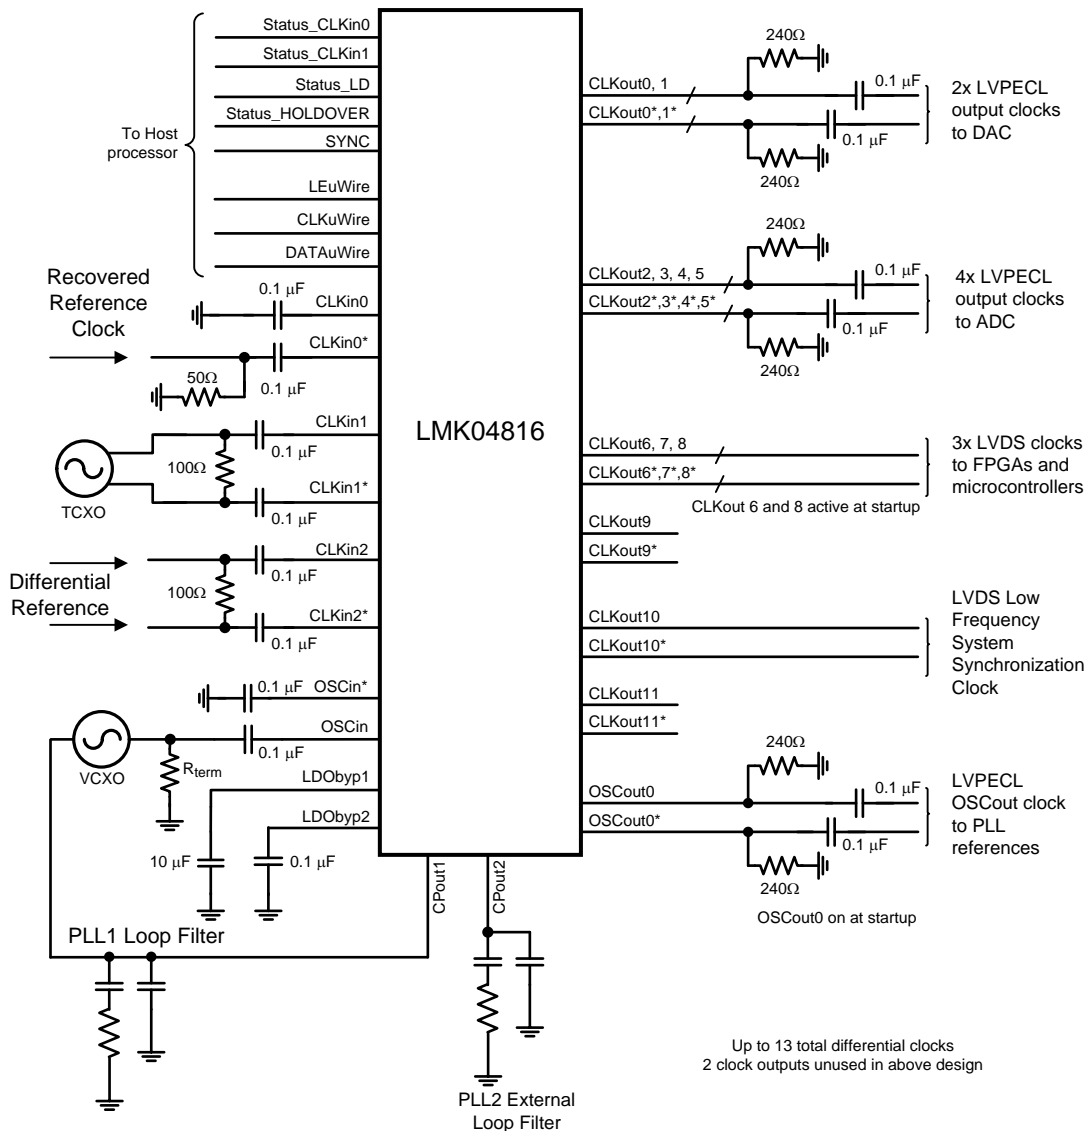

Figure 41. Example Application – System Schematic Except for Power
*Figure 41* and *Figure 42* show an LMK04816 with external circuitry for clocking and for power supply to serve as a guideline for good practices when designing with the LMK04816. Refer to Pin Connection Recommendations for more details on the pin connections and bypassing recommendations. Also refer to the evaluation board *TSW3085EVM ACPR and EVM Measurements (SLAA509)*. PCB design also plays a role in device performance.
Figure 41 shows the primary reference clock input is at CLKin0/0\*. A secondary reference clock is driving CLKin1/1\*. A third reference clock is driving CLKin2/2\*. All three clocks are depicted as AC-coupled differential drivers. The VCXO attached to the OSCin and OSCin\* port is configured as an AC-coupled single-ended driver. Any of the input ports (CLKin0/0\*, CLKin1/1\*, CLKin2/2\*, or OSCin/OSCin\*) may be configured as either differential or single-ended. These options are discussed later in the data sheet.